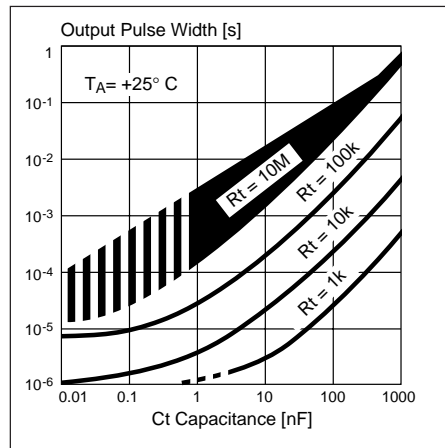

Figure 8. Typical  $t_{on}$  vs.  $C_T/R_T$ . Output pulse width vs. capacitance/resistance.
- Figure 8 shows the relationship between duty cycle, pulse width, and step frequency. Check specifications for the valid operating area.